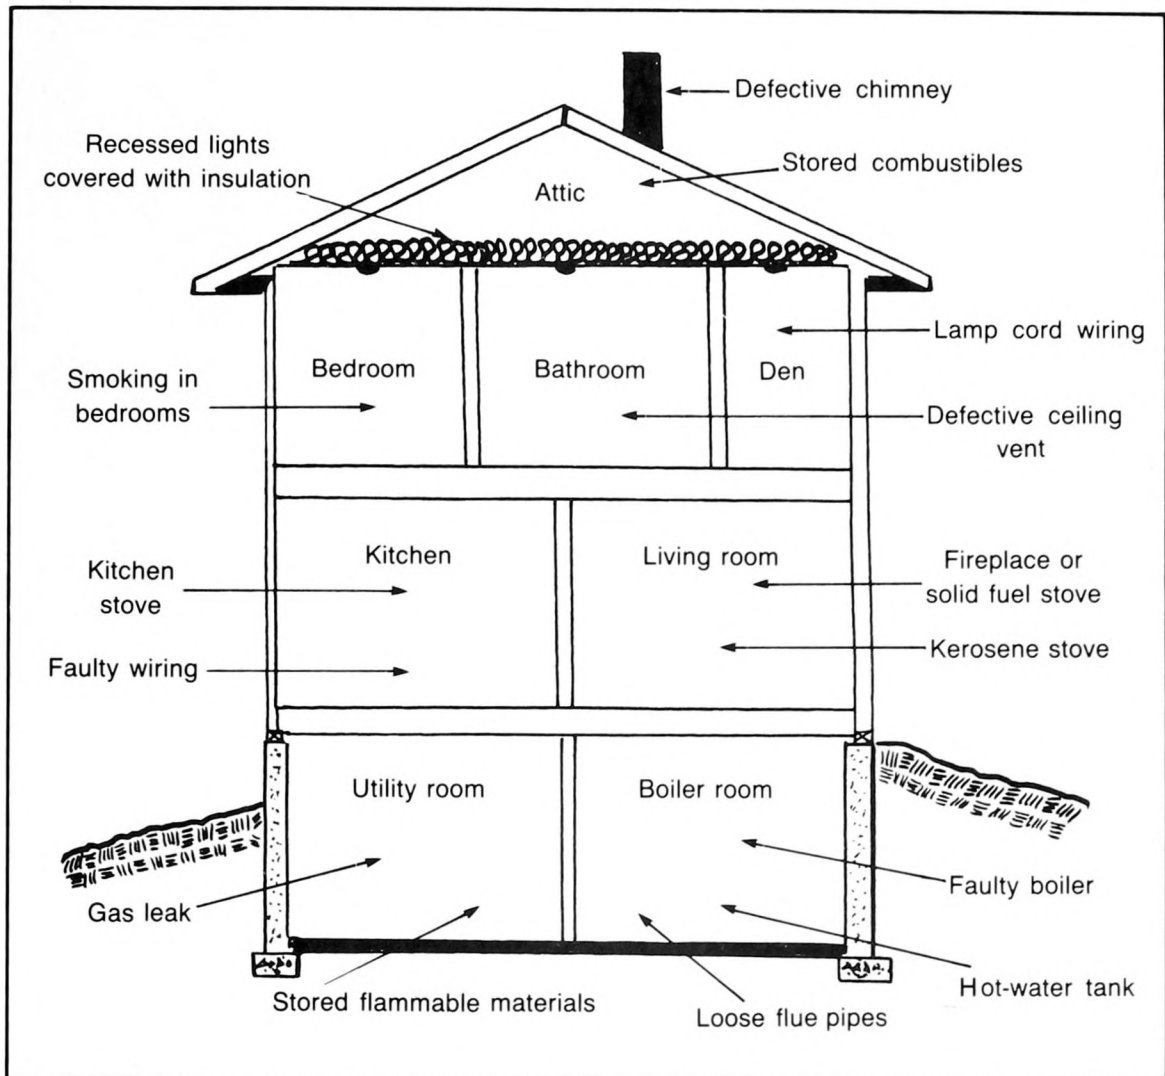

Fig. 8-9. Likely areas in a building where fires can originate. Make sure that you keep these areas clean and free of any fire-producing materials.
Because you don't want to add to this number, make sure that you take an inspection tour just for the purpose of finding out if you have any fire hazards in your building. If you detect the slightest potential, correct it immediately. To say, "I am going to do it tomorrow," is just not good enough! And always be prepared to cope in the event of a fire—you should have a working escape plan in effect. Figure 8-9 illustrates the areas in a building in which fire is most likely to start. The National Safety Council has a number of useful publications on fire prevention that might be of some help to you. Call (312) 527-4800 for information.